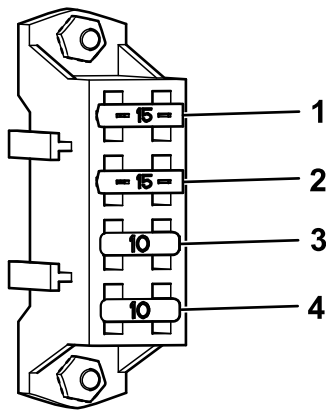

Figure 57
4. Replace any blown fuses (Figure 57).